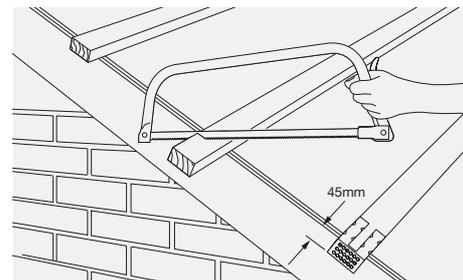

Fig. 1 – Position top course tiling battens
- 2 Saw tiling battens off square to overhang bargeboard or brickwork by 45mm, coat the cut ends with a suitable timber treatment and nail (Fig. 1).